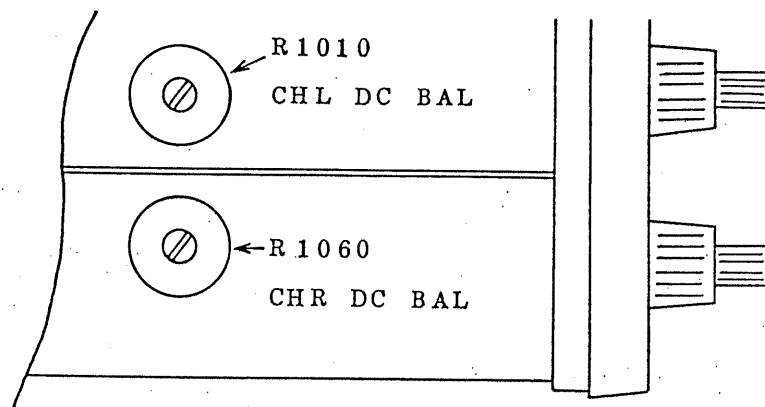

Fig. 10
- o Adjustment of DC BAL and POSI BAL  $\nabla$  (See Fig. 10)
- (1) Set the DISPLAY MODE switch (18) in the H  $\square$  state and the VERT GAIN switches (12) and (14) in the "GND" positions.
- (2) Set the VERT POSI knob  $\updownarrow$  (16) in the center position and the VAR knob (13) at the extremely counterclockwise position.
- (3) Turn the VAR knob (13) to the extremely clockwise position and, if the trace shifts as a result of this, so adjust the CHL DC BAL control (R1010) on the left-hand printed board that the trace is brought back to the original position.
- (4) Repeat the procedures of (2) and (3) until the trace does not shift when the VAR knob (13) is turned.
- (5) Turn the VAR knob (15) to the extremely counterclockwise position. Align the CHR base line to the CHL base line by adjusting the POSI BAL control  $\nabla$  (17).
- (6) Turn the VAR knob (15) to the extremely clockwise position and, if the trace is shifted in this case, bring the trace to the original position by adjusting the CHR DC BAL control (R1060) on the left-hand printed board.
- (7) Repeat the procedures of (5) and (6) until the trace does not shift when the VAR knob (15) is turned.